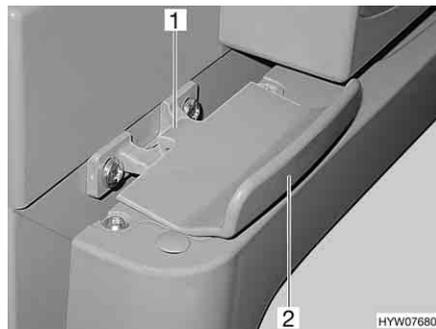

Fig. 177 Lock of refrigerator door, closed (Thetford)
- Open the refrigerator door at the handle (Fig. 177,2). The lock (Fig. 177,1) is released automatically.